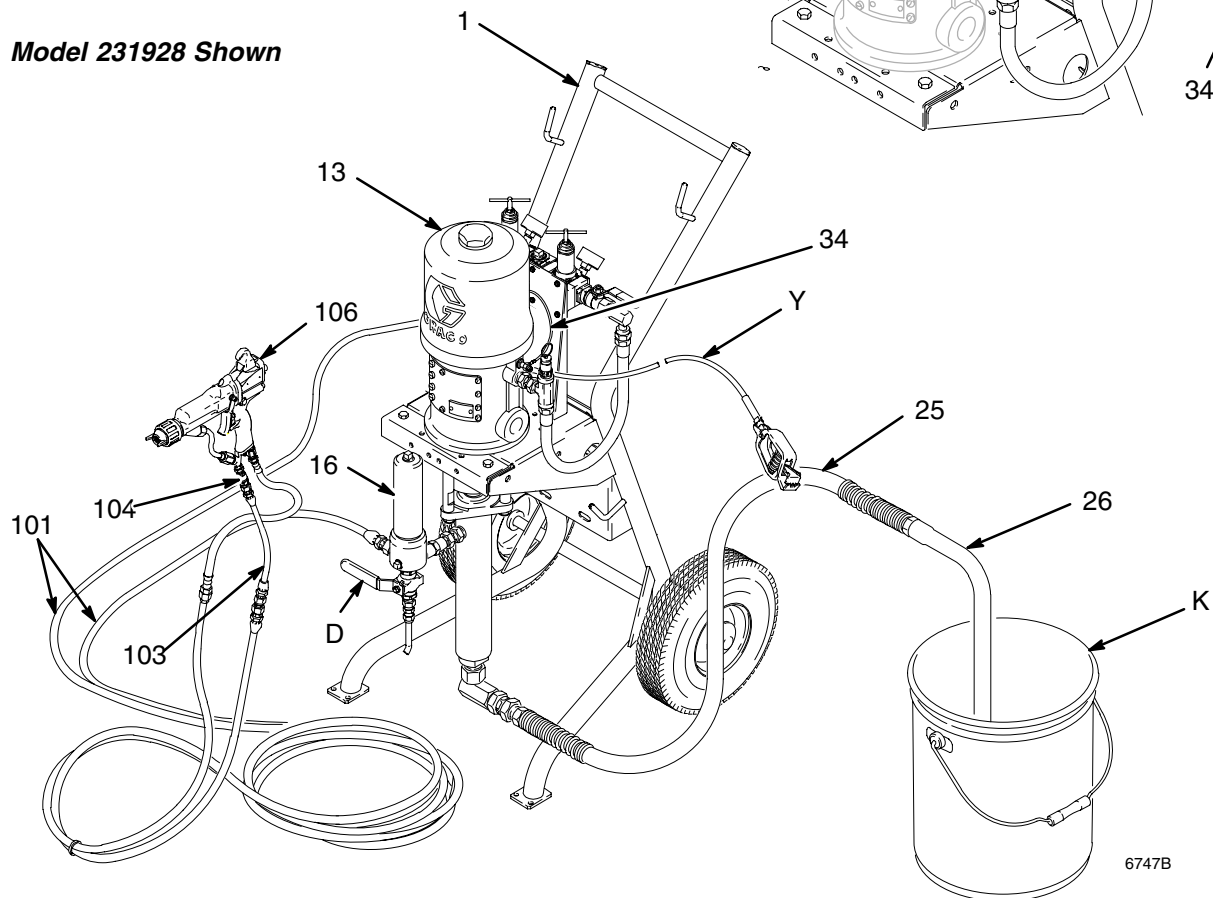

Fig. 3
Fig. 3 is only a guide for selecting and installing system components and accessories. Contact your Graco distributor for assistance in designing a system to suit your particular needs.
Refer to Fig. 3. Bring a compressed air supply line (A) from the air compressor to the pump location. Be sure all air hoses are properly sized and pressure-rated for your system. Use only electrically conductive hoses. The air hose should have a 3/8 npsm(m) thread.
Refer to Fig. 3.